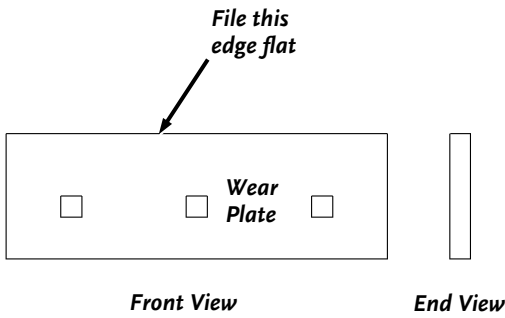

Figure 59
2. File the edge of the Wear Plate to take out any nicks and to square rounded edges (**Figure 59**).